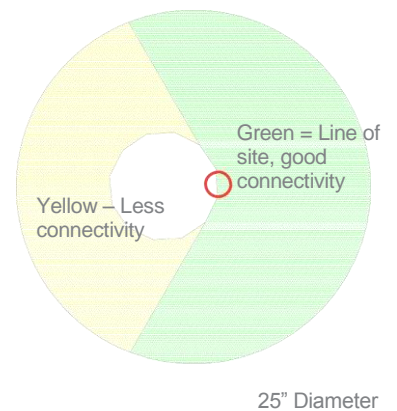

Figure 8.3
3. **Remote Range** – The remote should reliably operate within a 25-foot distance from your fireplace. Greater distances may be possible depending on your particular application. Antenna extension cable is available when needed. See Figure 8.3.